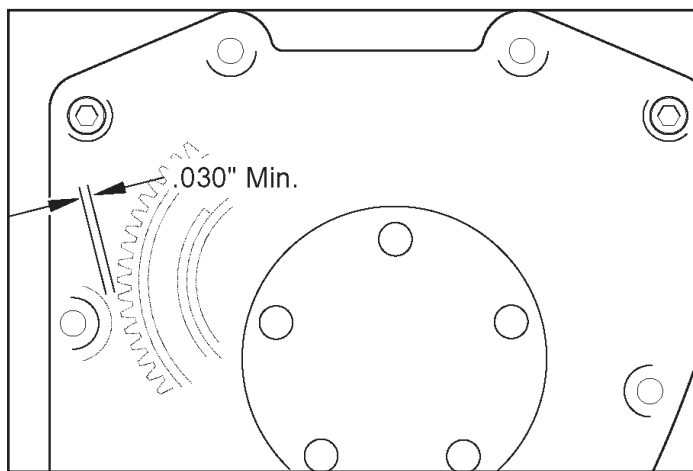

Figure 6
18. Press a small piece of clay or kneadable putty on cam cover mounting boss shown. **See Figure 6.** Carefully hold cover and cover gasket in position against crankcase. Install mounting bolts (4) near corners of cover finger tight. Push or tap cam cover towards front of engine.